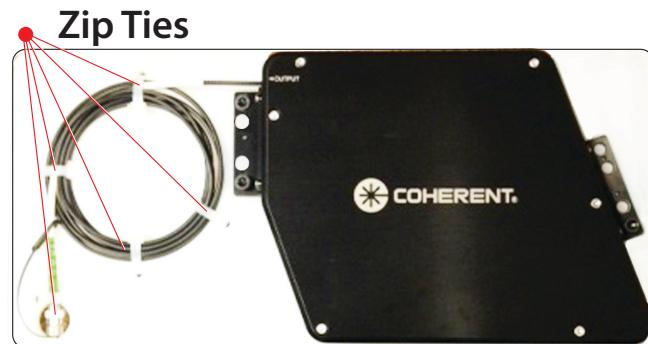

Figure 5-28. Attach Fiber with Zip Ties
2. Coil the output fiber to the correct diameter to fit the plate (about seven coils) and attach it to the shipping plate with five zip ties, as shown in the example in Figure 5-28.